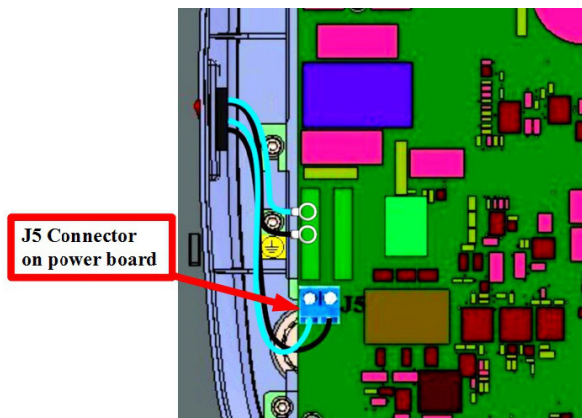

Figure 120
- Disconnect the wires(Pin terminals) from the J5 connector on the power board using a Jewel screw driver as shown in Figure 120 (Live=Blue & Neutral=Black).
- Connect the switch wires(Pin terminals) to the J5 connector on the power board using a Jewel screw driver as shown in Figure 120 (Live=Blue & Neutral=Black).